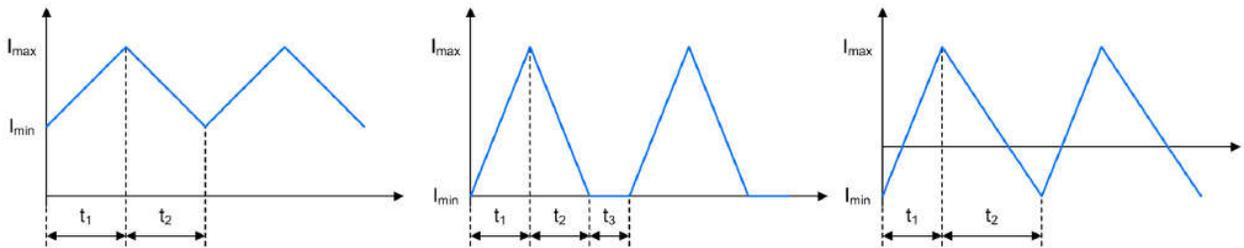

Figure 3-1. Inductor current reverses at light load
For synchronous Inverse BUCK-BOOST topology power control, both voltage loop and current loop require sampling. The voltage loop generally samples the output voltage and its polarity is not reversed, so it is secure for UCD3138 Front End (FE) interface. However, in light load operation in FPWM mode, IBB, like other power supplies, will reverse the inductor current (e.g. Figure 3-1 [3]).